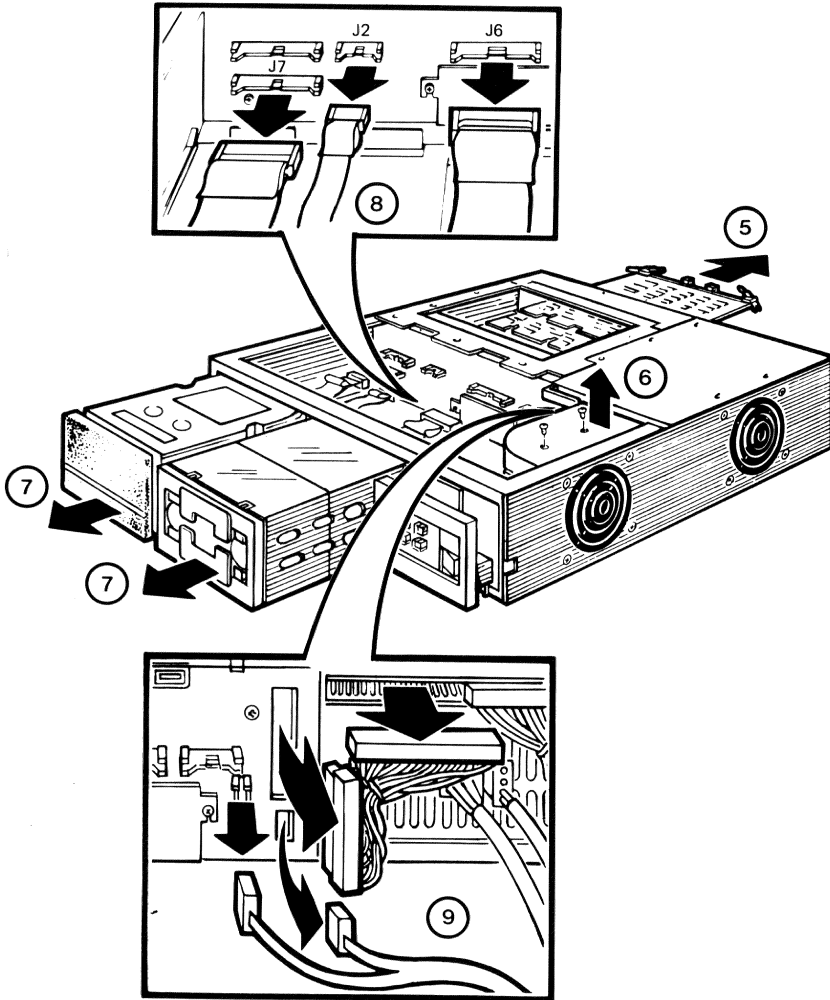

Figure 6-13 Backplane Removal (Steps 4–9)
5. Remove all the system modules. (Figure 6-13) (See Paragraph 6.9.)